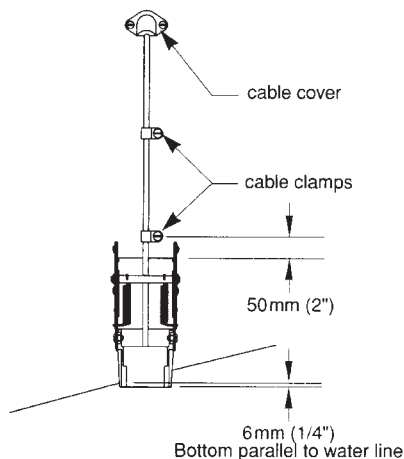

Figure 12. Transom mounting location
3. Position the assembly at the selected location with the transducer face parallel to the water. Good results can be achieved on most boats when the bottom of the transducer is about 6 mm (1/4") below the bottom of the hull and parallel to the waterline as shown in Figure 12. [On aluminum hulls, position the transducer 10mm (3/8") below the hull bottom.] Do not position the transducer farther into the water than necessary to avoid increasing drag, spray, and water noise thus decreasing boat speed.
3. On the outside of the hull secure the cable against the transom using the cable clamps and cable cover (see Figure 12).